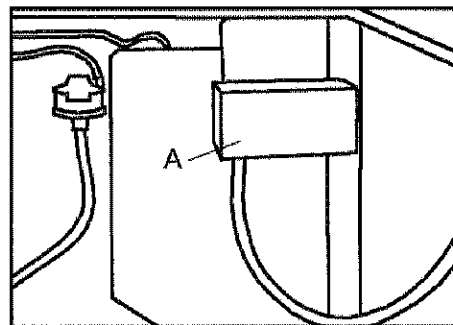

fig. 21
- Open circuit adapter box cover **A**. This box is located at the rear panel (*fig. 21*). Drill a hole in the inlet box protector to the size of the conductor to be used.